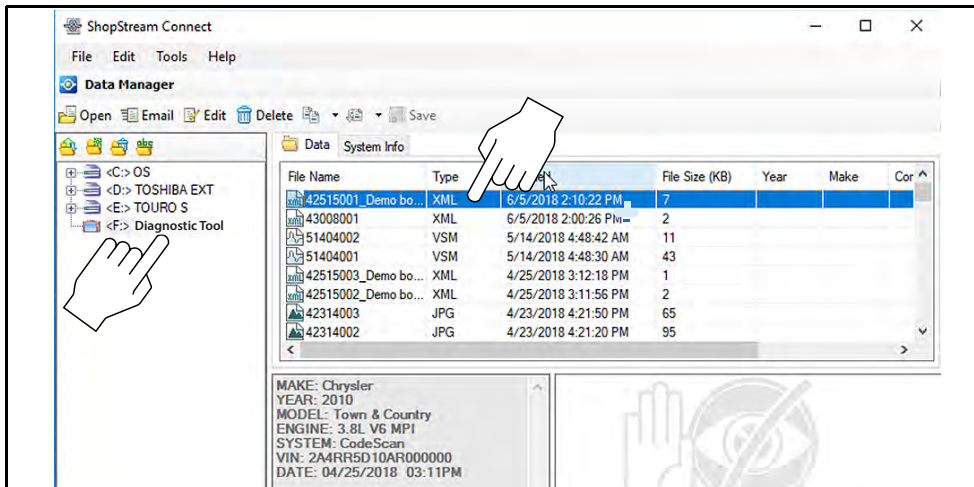

Figure 15-5
1. Double-click the code scan .XML file from the file list to open the Vehicle System Report (Figure 15-5) in the Code Scan Viewer (Figure 15-6).